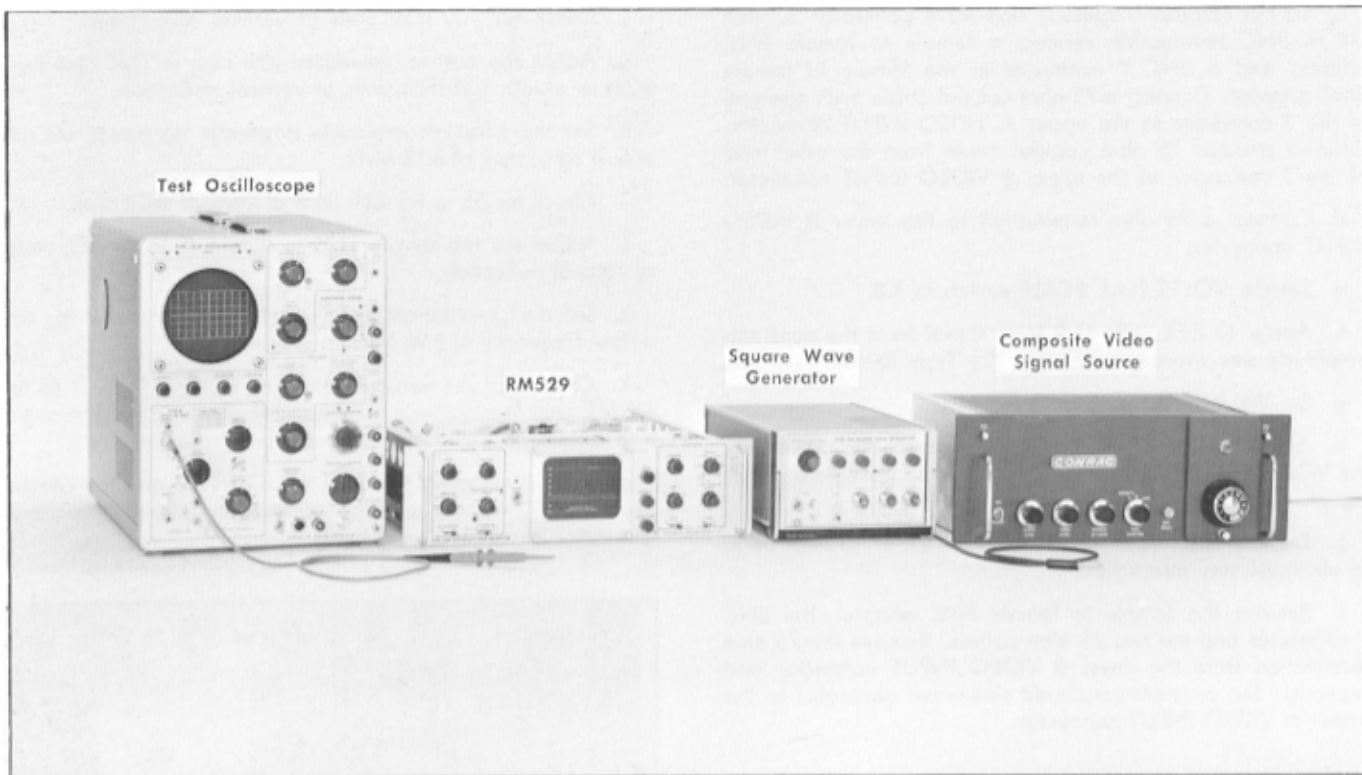

Fig. 6-37. Test equipment required for steps 31 and 32.
a. Test equipment setup is shown in Fig. 6-37.
- a. Test equipment setup is shown in Fig. 6-37.